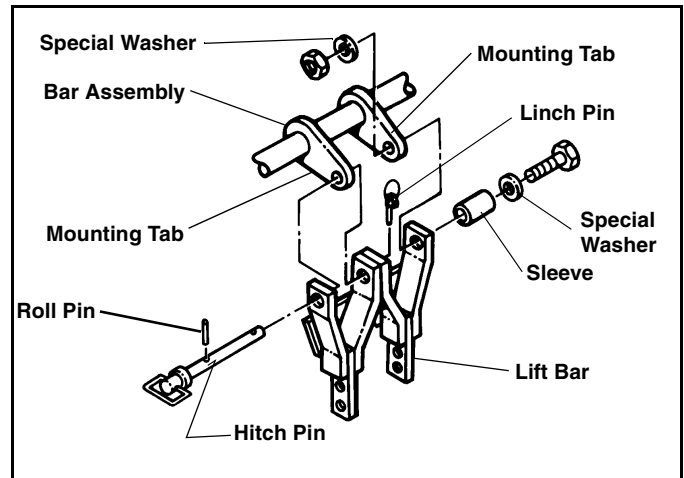

Figure 5
7. Remove Linch Pin, Roll Pin, and Hitch Pin located on Lift Bar. Remove Hitch Pin from Lift bar. (See Figure 5)
8. Align 3/4" hole in mounting tab, on Lower Bar Assembly Cross Tube, with matching hole in lift arm. Insert Hitch Pin in aligned holes and replace Roll Pin and Linch Pin. (See Figure 5)
9. Align 3/4" hole in mounting tab, on Lower Bar Assembly Cross Tube, with matching hole in Lift Bar and insert Sleeve (#26) secure with (1) 1/2" x 2" Cap Screw (#27), (2) Special Washers (#29), and Nylock Nut (#28) provided. Tighten to 75 Ft. Lbs. (See Figure 5)